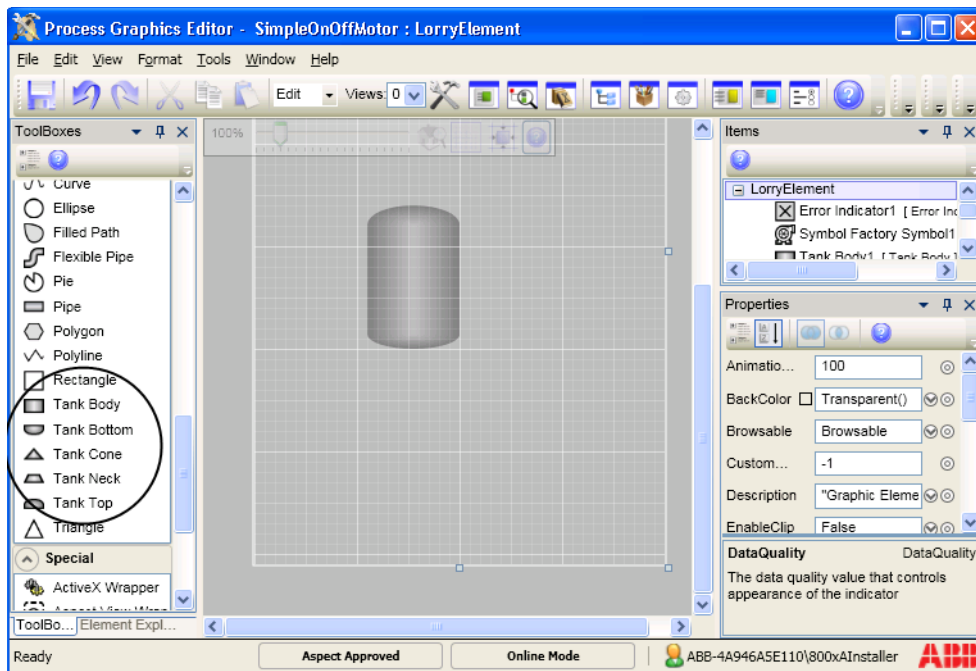

Figure 5. PLC Subelements Tank Element
3. Move and resize the primitives as shown in Figure 5.